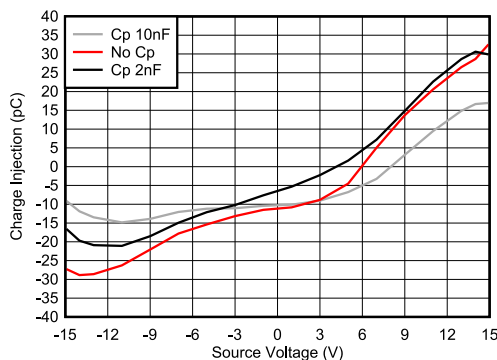

图 7-3. Charge Injection Compensation
The TMUX6219 contains specialized architecture to reduce charge injection on the source (S_x). To further reduce charge injection in a sensitive application, a compensation capacitor (C_p) can be added on the drain (D). This will ensure that excess charge from the switch transition will be pushed into the compensation capacitor on the drain (D) instead of the source (S_x). As a general rule, C_p should be 20× larger than the equivalent load capacitance on the source (S_x). 图 7-3 shows charge injection variation with source voltage with different compensation capacitors on the Drain side.